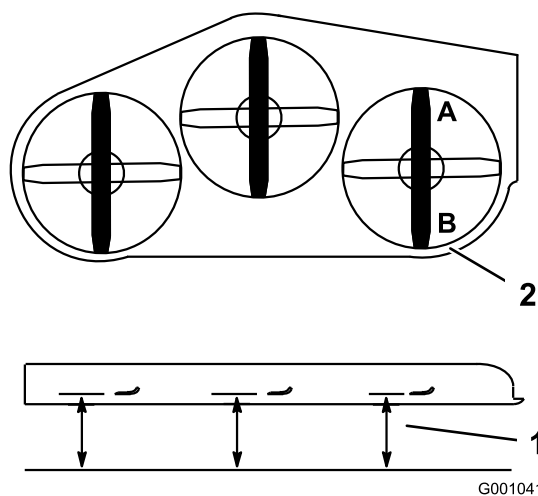

Figure 99
2. Position 1 blade front-to-rear. Measure at **A** and **B** locations from a level surface to the cutting edge of the blade tips (Figure 99).